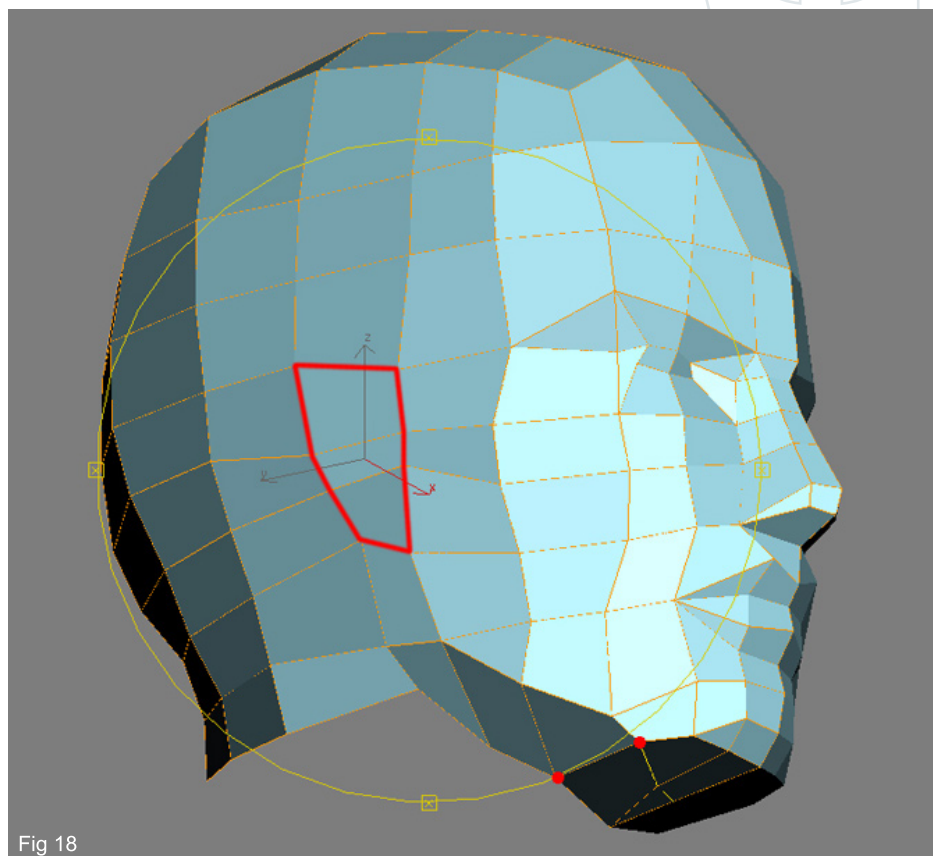

Fig 18
18. To economise futher weld two more verts to the outside edge as shown by the red dots in Fig18. With this complete it is now time to create the ears so start by moving the verts into positions that resemble a rough shape as seen by the red outline.